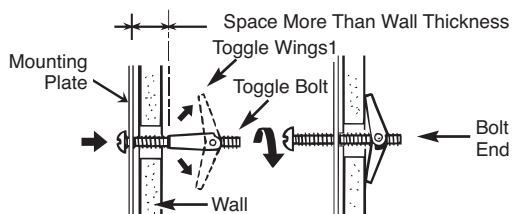

Figure 29
4. Attach the plate to the wall. To use spring toggle head bolts: Remove the toggle wings from the bolts. Insert the bolts into the mounting plate and replace the spring toggle head to 3/4 past the bolt ends. Insert the spring toggle head into the holes in the wall to mount the plate. You may pull forward on the plate to help in tightening the toggle bolts. Tighten all bolts. See Figure 29.